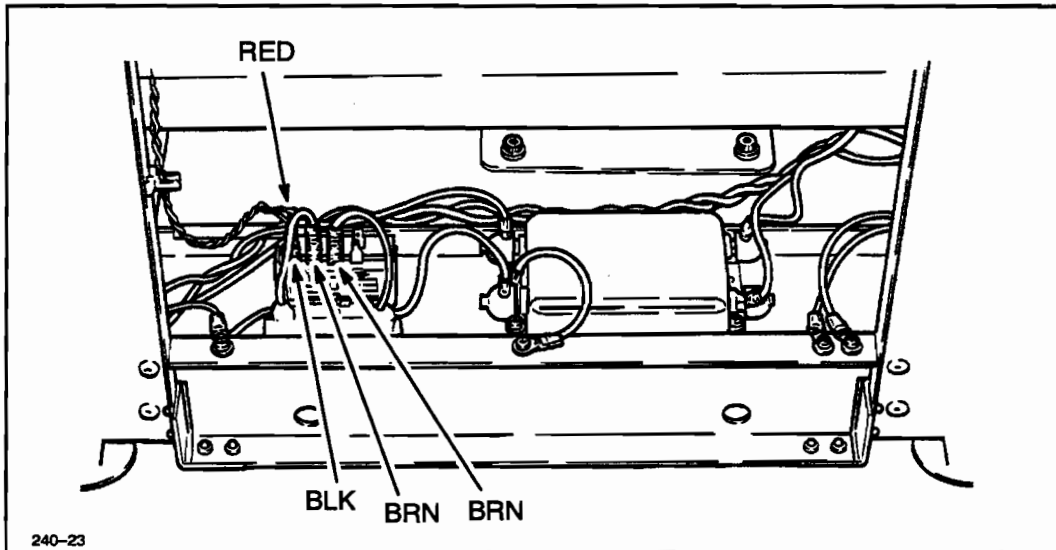

Figure 6-16. Line/Load Relay (RL1) Removal (Models 240D/E)
1. Switch the plotter OFF (O) and disconnect the ac power cord and interface cable.
3. Note the orientation of the line and load wire connections to the relay. Disconnect the wires from the relay. See Figure 6-16.